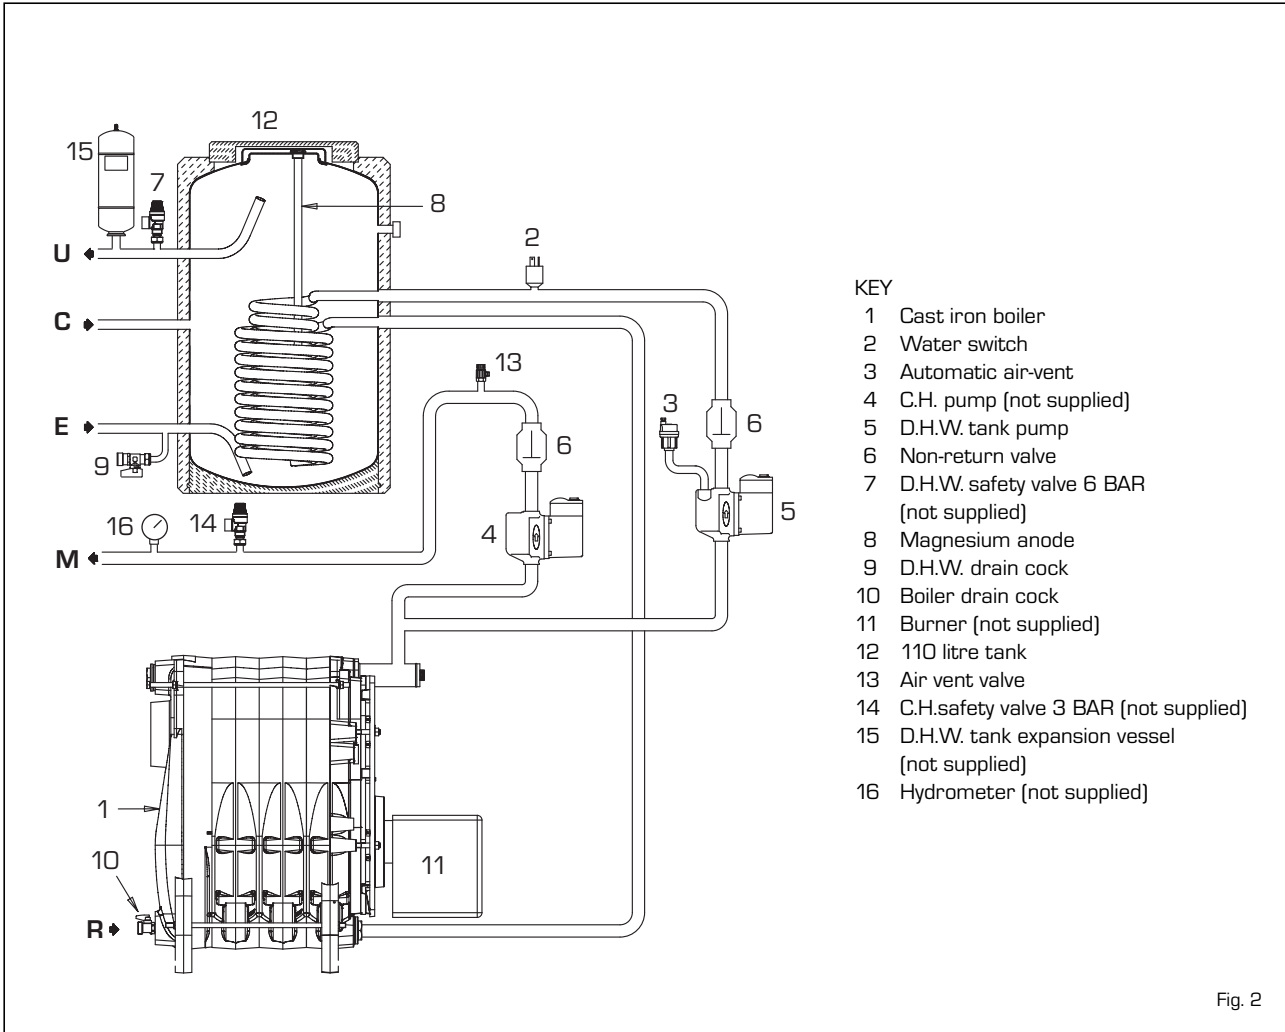

Fig. 2
2.3.1 Accessories (fig. 2)
To facilitate this operation, position the slot of the release screw on the check valve horizontally (6 fig. 2). Once the air has been bled, return the screw to its original position.